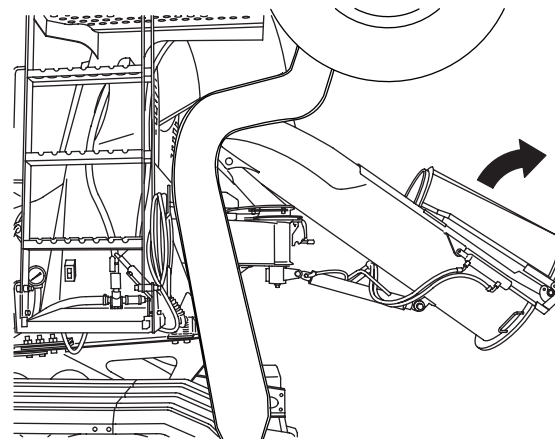

Figure 20
2. Grip the fold-over chute using the correct hand-holds (Figure 20).